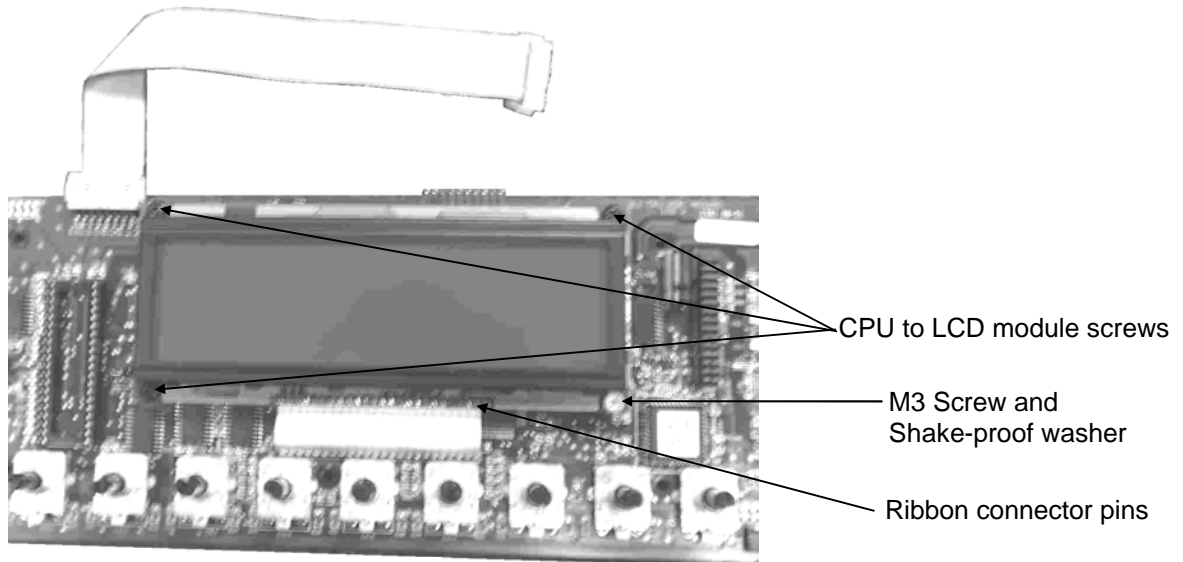

fig.15
- 1) Remove the 3 screws attaching the CPU PCB onto the LCD module (see fig.15)
- 3) Carefully de-solder the ribbon connector pins (see fig.15) and remove ribbon connector from the LCD module.
- 4) Retain the M3x25 screw with shake-proof washer and pillar once removed (see fig.15)